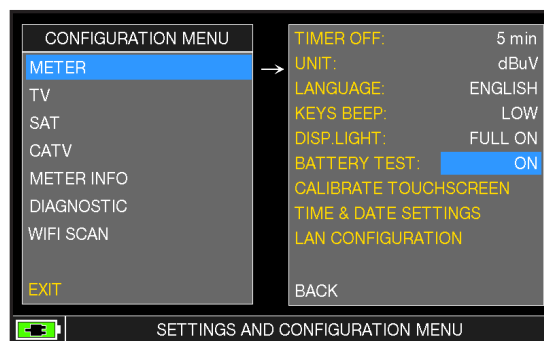

FIG. 2\*
- Select the word "meter" and press "ENTER" (fig. 2) & press "ENTER" to confirm;
- Select "battery test" and select "on" (fig. 2);